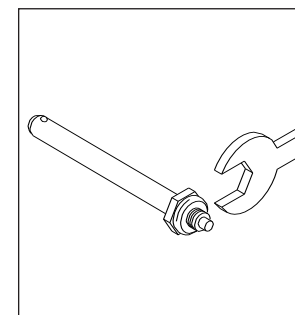

Figure 12
4. Rear Wheel Axle Adjustment (Fig. 12)